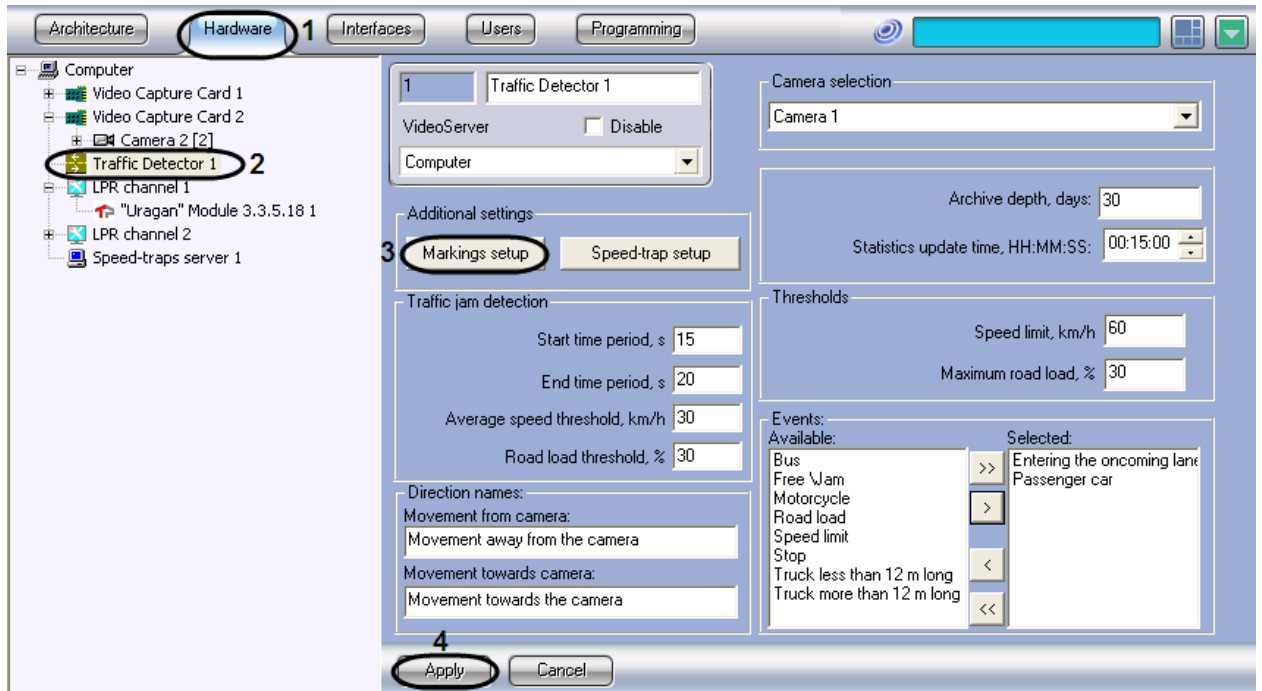

Fig. 7.4-10 Importing the markings file
2. In the object tree on the left side of the Hardware tab, select the Traffic Detector object representing the Traffic Detector module to be set up. The settings panel of the selected object will open on the right side of the window (see Fig. 7.4-10).
5. Click Apply (see Fig. 7.4-10).